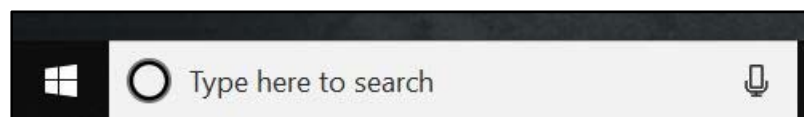

Figure 2-1, Taskbar Search Function
1. Type “Autodesk” or “Vault” into the taskbar search function (shown in Figure 2-1, Taskbar Search Function).